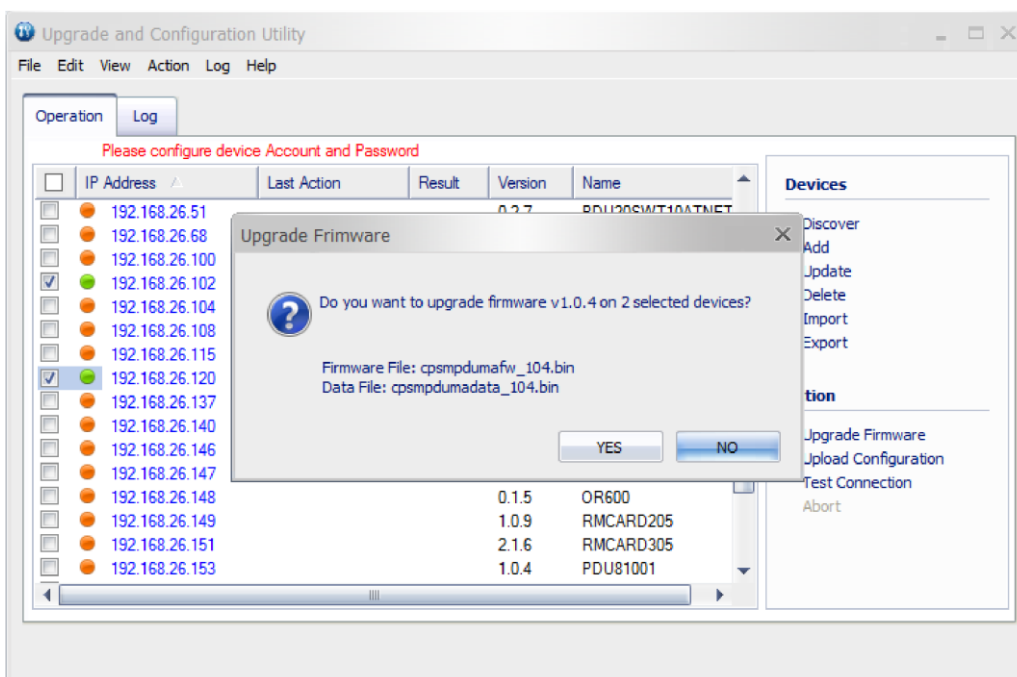

Figure 5.
8. Click **OK** in the **Upgrade Firmware** confirmation window (Shown in Figure 5).